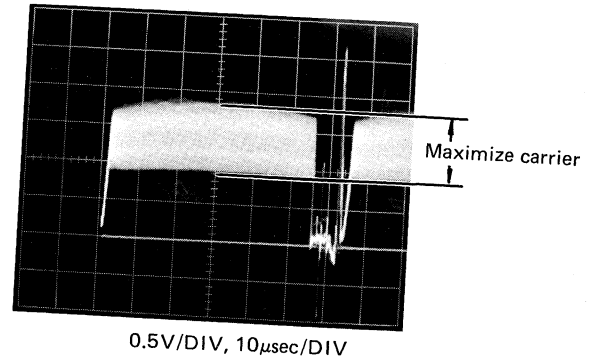

Fig. 4-2-11
- Adjust FOCUS VR15 so that the carrier (5.0MHz) on centre portion of the prevideo signal becomes maximum. (Fig. 4-2-11)